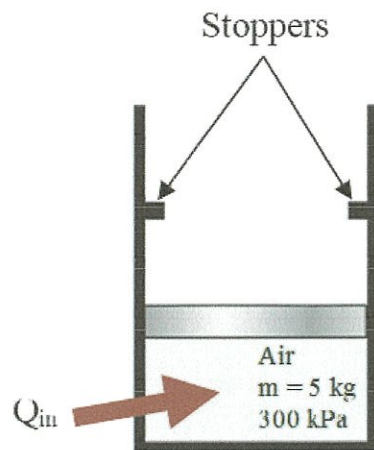

Figure Q3
- Q3** A piston-cylinder device with a set of stops on the top, initially contains 5 kg of air at 300 kPa and 27°C as shown in **Figure Q3** (Process occurred at constant pressure and it's a closed system). Heat is now supplied to the air (inside cylinder) causing the volume to expand and rise the piston until it hits the stoppers at which the volume is twice the initial volume